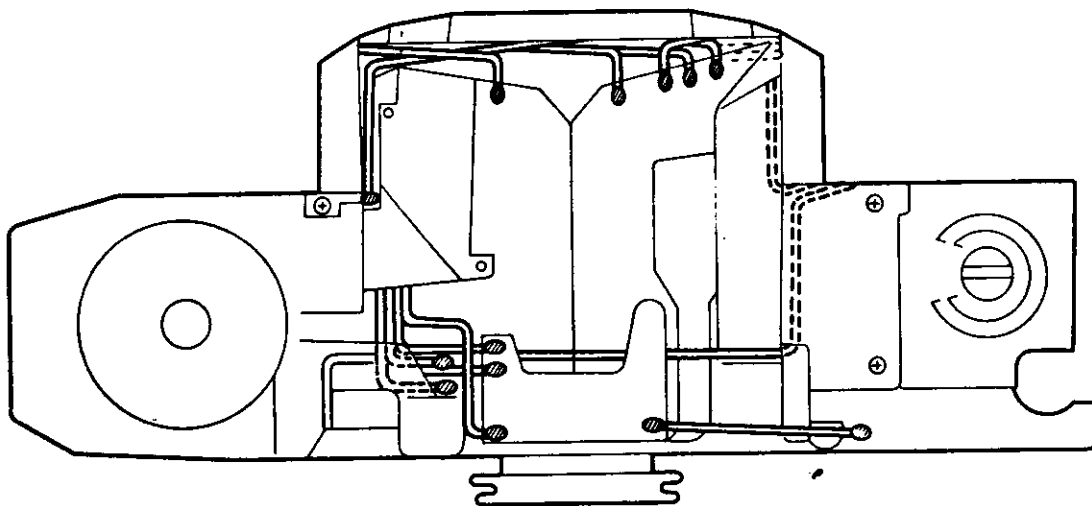

Fig. 43
- 1) Arrange each lead wires as shown in Fig. 43 with care.